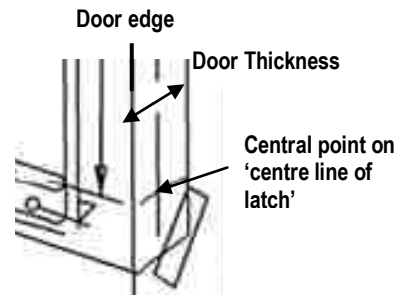

Figure 2
- Mark a central point on the 'centre line of latch' across the thickness of the door. (Figure 2)